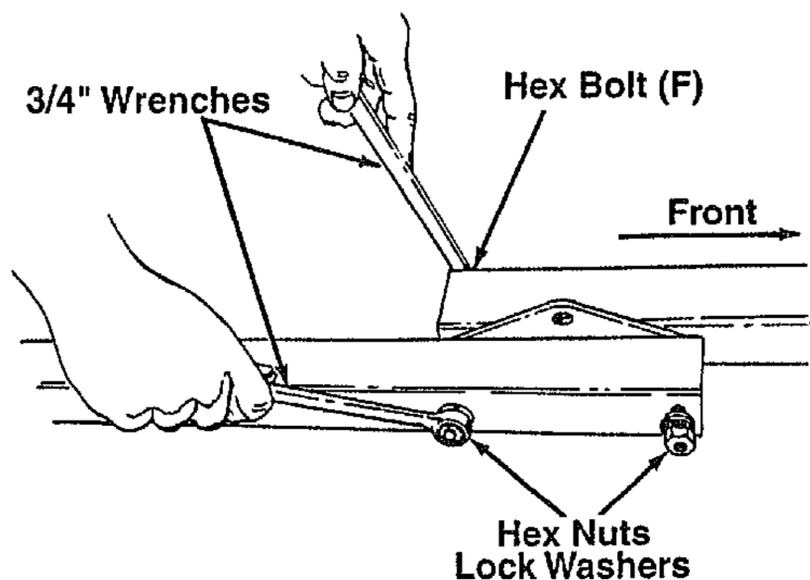

Figure 4
- Secure the front tubing assemblies to the rear tubing with four (4) hex bolts 1/2-14 x 4" long, lock washers and hex nuts. Bolts go from inside out and the nuts and washers must go on the outside. See Figure 4.